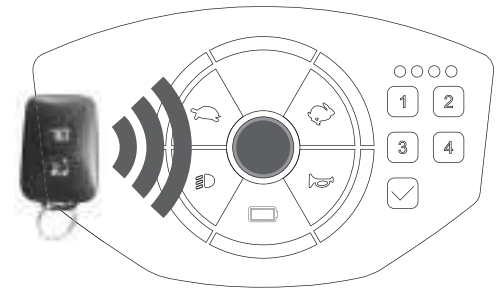

Figure 8
- To unlock, place the RF sensor tag to the panel (spot near power switch for best reading result) (Figure 8)